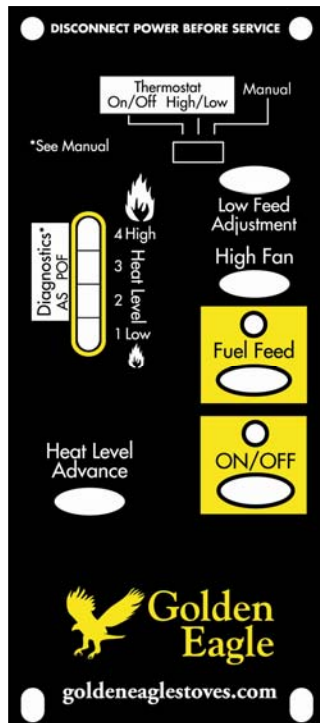

Figure 11
- While the stove’s auger system is feeding pellets the green light (in the “Fuel Feed” box) will be on. (See figure 11)